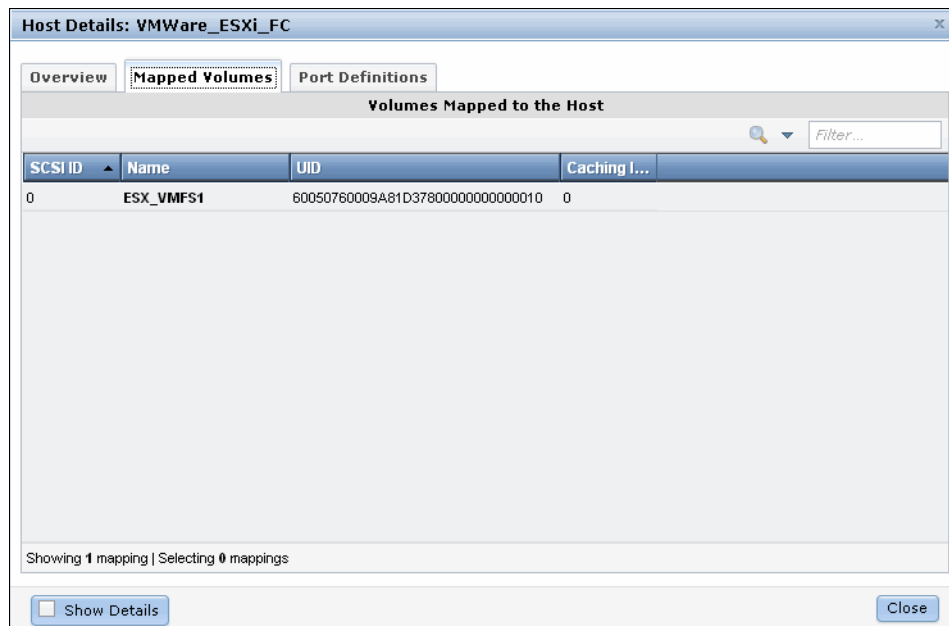

Figure 5-52 Mapped volumes to ESX FC host
2. Browse to the **Mapped Volumes** tab, as shown in Figure 5-52.